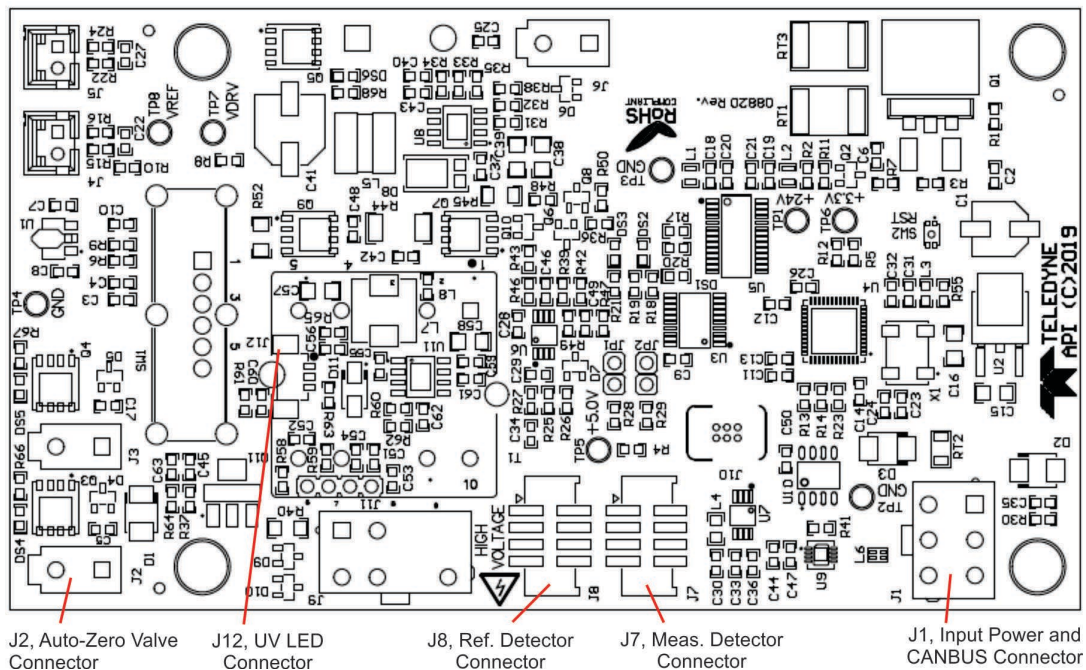
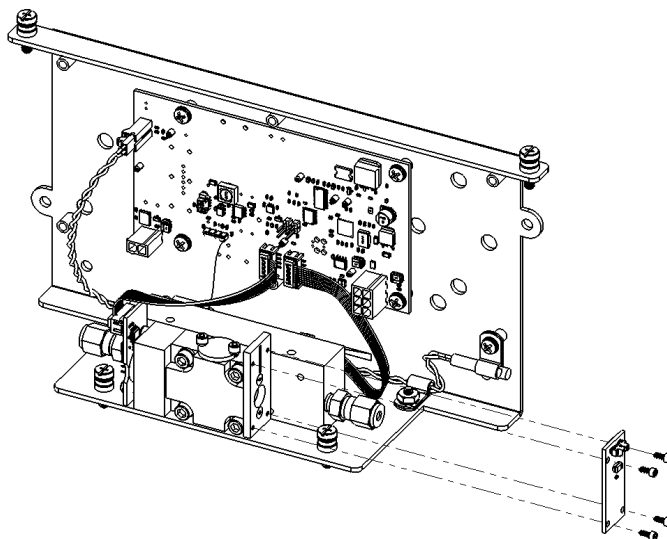

Figure 7-4. O₃ Sensor Module Board
Figure 7-5. UV LED Access
Following ESD prevention practices, use a properly grounded wrist strap and replace the UV LED by first disconnecting its power at the J12 connector (Figure 7-4) and removing the four (4) socket head screws (Figure 7-5) to access the UV LED. Avoid damage to the UV LED by only handling the UV LED PCA assembly by the board's edges during installation.